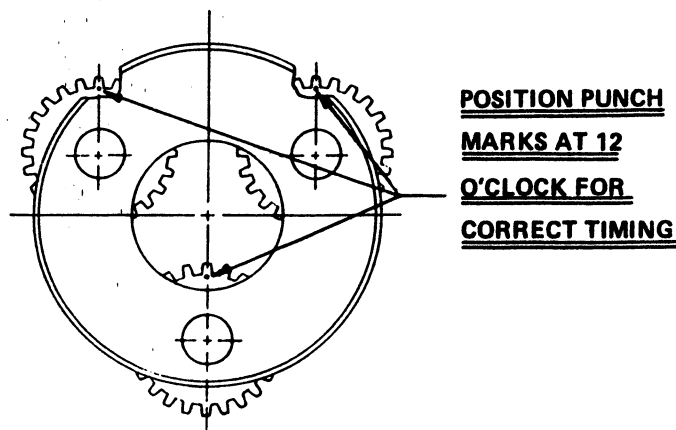

Figure 2-14. Drive Hub Carrier Timing.
- b. Prior to placing ring gear over cluster gears, rotate the cluster gears until the timing marks are at the 12 o'clock position. See Figure 2-14.